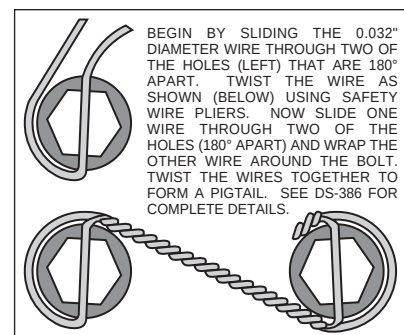

Figure 3. Safety Wire Diagram
- The caliper mount bracket assembly (1) should be installed first with clean, dry threads on the mounting bolts. Install the bracket by sliding bolt (4) through washer (2) from the back side through the lower caliper mounting ear on the spindle. Slide bolt (3) through washer (2) from a 90° degree angle on the upper portion of the steering arm. The bracket must tighten squarely against the outboard side of the caliper mount bosses on the spindle body. Inspect for interference from casting irregularities, machining ridges, burrs, etc. Later, after the caliper, pad, and rotor alignment has been checked, and any necessary shims have been put in place, the threads of the mounting bolts should be coated with red *Loctite*® 271 and torqued to 65 ft-lbs.
- Install wheel studs (5) into the hub (6). Torque to 77 ft-lb. **NOTE:** There are two (2) five lug patterns in the hub (5 x 4.50 and 5 x 4.75). Make sure of the correct hole pattern for the correct wheel application before installing studs into hub.
- Pack the large inner bearing cone (7) with high temperature disc brake bearing grease (available from your local auto parts store) and install into the backside of the hub (6).
- Install the grease seal (8) by pressing into the backside of the hub (6).
- Pack the small outer bearing cone (14) with high temperature disc brake bearing grease and install into front of hub (6). Slide the hub assembly (5, 6, 7, 8 and 14) onto the spindle. Secure using spindle washer (15), stock adjusting nut and nut locking device. Adjust bearing using a 12" wrench to tighten the adjusting nut while turning the rotor. When the rotor binds slightly, all the bearing parts are seated properly. Back of the nut 1/6 to 1/4 of a turn or enough to allow 0.001 to 0.007 end play. Lock the nut with a new cotter pin. **WARNING:** Failure to back off the adjusting nut may cause the bearing to run hot and be damaged, which could cause the wheel to lock or come off during operation, creating a risk of serious bodily harm.
- Install the o-ring (16) on the dust cap (17), and screw dust cap assembly onto the hub (6). Friction created by the o-ring (16) on the dust cap (17) keeps it from unscrewing.
- With the larger I.D. side of the rotor (9) facing away from the hat (10), bolt rotor (9) to hat(10) through the backside of the rotor using washers (11) and bolts (12). Using an alternating sequence, apply red *Loctite*® 271 to the threads and torque bolts to 155 in-lb. For an added measure of security, the bolts may be safety wired using standard 0.032 inch diameter stainless steel safety wire as shown in Figure 3. Please refer to Wilwood's data sheet DS-386 (available at [www.wilwood.com/Pdf/DataSheets/ds386.pdf](http://www.wilwood.com/Pdf/DataSheets/ds386.pdf)) for complete safety wire installation instructions.
- Slide the rotor/hat assembly over the studs (5) in the hub (6) taking care to align the small countersunk holes in the hat (10) with the small threaded holes in the hub (6). Install three flat head socket head screws (13) through the small holes in the hat (10) and torque to 85 in-lb.